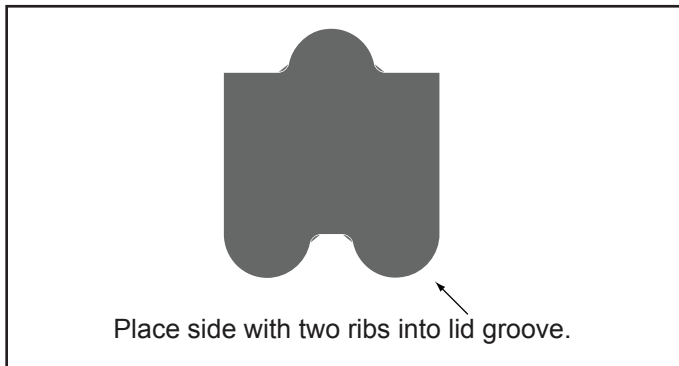

Figure 2. Cross Section of Lid Seal
6. Note that one (1) side of the lid seal has two (2) ribs and the other has one (1). Place the side with two (2) ribs into the groove. See Figure 2.
Bubbles present in the pump basket.	<p>Air is in system. Check pool or spa water level to ensure it is at the proper level and air is not being drawn into suction piping. If water is at normal level, turn off pump. Turn the lid's locking ring counter-clockwise until 'START' aligns with ports. Remove lid and check for debris around lid seal seat or improper installation of lid seal, as either of these conditions will cause air leaks in the system. Clean lid seal and lid groove. Note that one (1) side of lid seal has two (2) ribs and the other has one (1). See Figure 2. Place the side with two (2) ribs into lid groove. Replace lid on pump housing. Align 'START' with ports and turn lid's locking ring clockwise until 'LOCKED' aligns with ports. Hand-tighten the lid to make an air tight seal. Do not use any tools to tighten the lid. Turn the pump back on.</p>